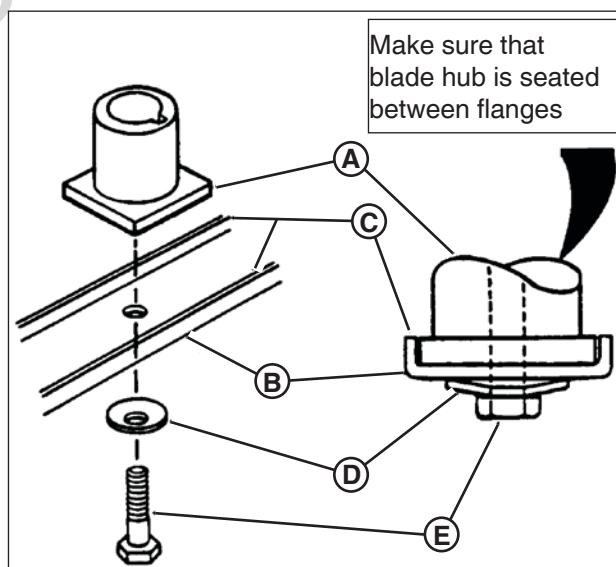

Figure 21: Removing the mower blade
3. Remove the blade (**B, Figure 21**).
- Reinstall blade (**B**, **Figure 21**). Note the correct assembly order:
- (A) Blade hub
- (B) Blade
- (C) Blade flange (facing up)
- (D) Cone washer (concave side up)
- (E) Capscrew